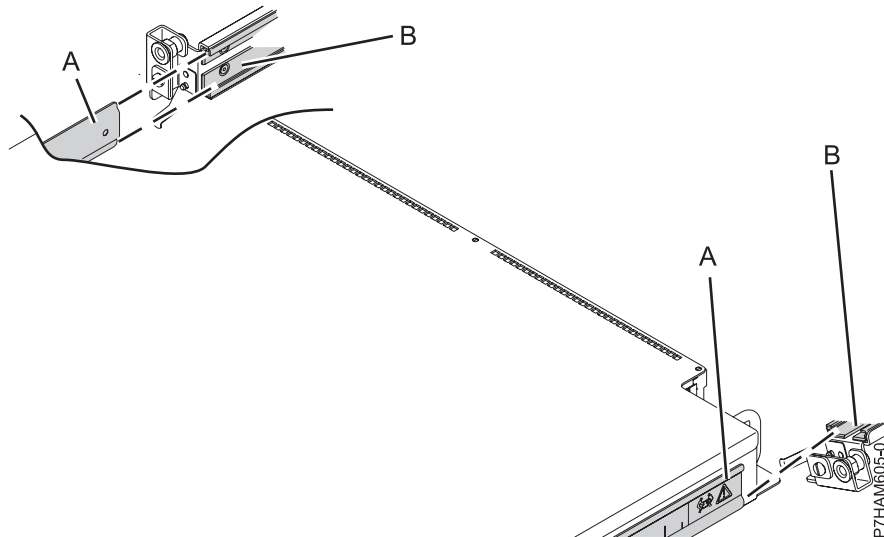

Figure 13. Reviewing the enclosure attachment to the rails
- a. Before attempting to mount the PCIe storage enclosure to the rails, review Figure 13 to observe how the chassis bracket guide (A) on the side of the enclosure fits and slides into the rail sheath (B) that matches its shape.
Note: In Figure 13, the right rail (B) is portrayed at an angle to show the location of the rail sheath. The actual rail is mounted in an upright position in the rack.